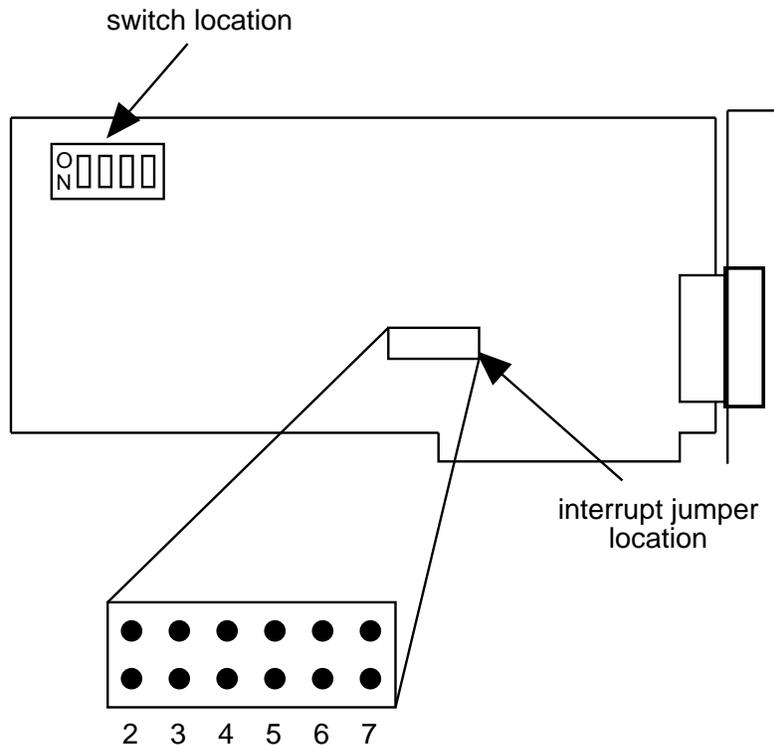

Figure 8-1. PC/XL Synchronous Card
The PC/XL communications card is shown below in Figure 8-1; the location of the I/O address switches and IRQ interrupt jumper are identified.
- Set the IRQ jumper -- the default is 5. However, you must set the jumper according to the output from the configuration software program. Figure 8-1 illustrates the interrupt settings.